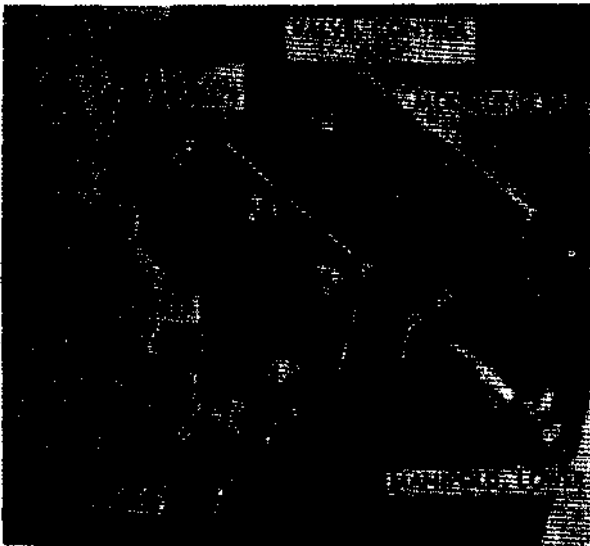

Figure 77. Removing control valve assembly with manifolds.
- (b) Remove seven capscrews and lockwashers attaching control valve assembly, with upper and lower manifold, to mounting base, and remove control valve assembly (fig. 77). Discard gaskets.
- (1) Install control valve assembly. Position the control valve assembly mounting gasket to valve mounting base and place control valve cover gasket and cover on the valve. Install the control valve to mounting base and secure with eight cap screws (fig. 77) and eight lockwashers.
- (2) Install control relay housing.